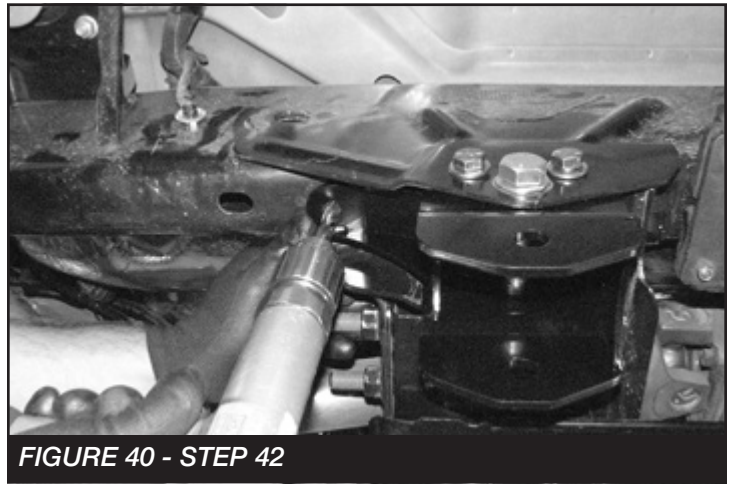

FIGURE 40 - STEP 42
42. Using the Fabtech the radius arm drop bracket as a drill guide, drill a 1/2" hole through the bottom of the frame. **SEE FIGURE 40**